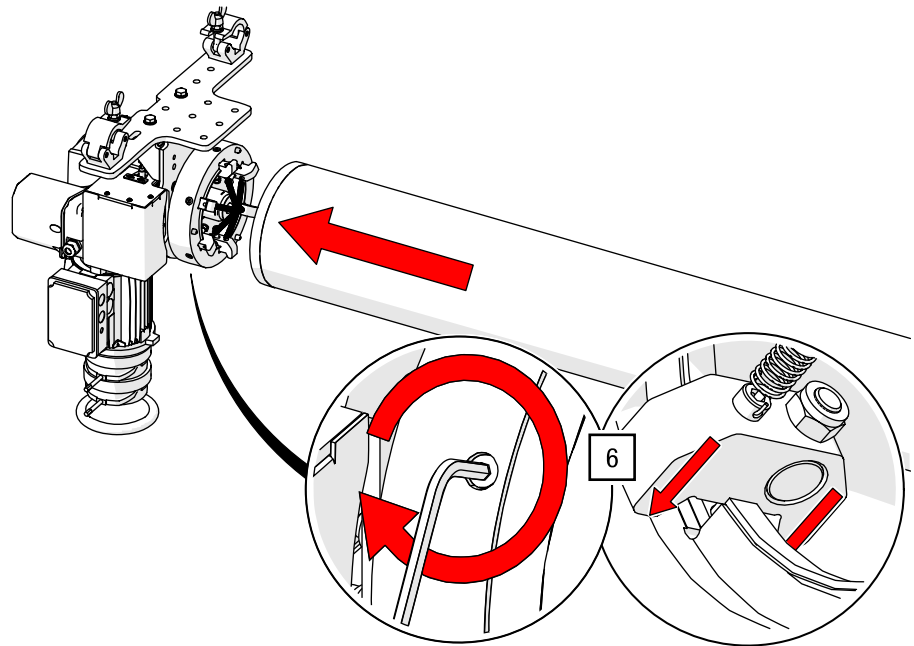

Fig. 24: TUBE roller screen – joining the CFRP tubes to the drive-end assembly
6. Connect the CFRP tube and [the end assemblies, then tighten the bolts gradually in a crosswise pattern, as described in step 3 (see Fig. 24).